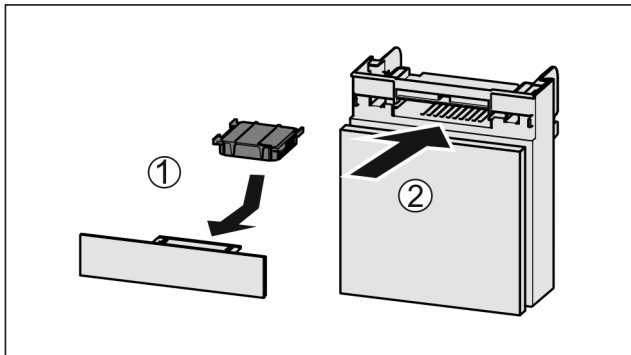

Fig. 179
- ▶ Insert the carbon filter as shown in the diagram Fig. 179 (1).
- ▶ Push the compartment in Fig. 179 (2).